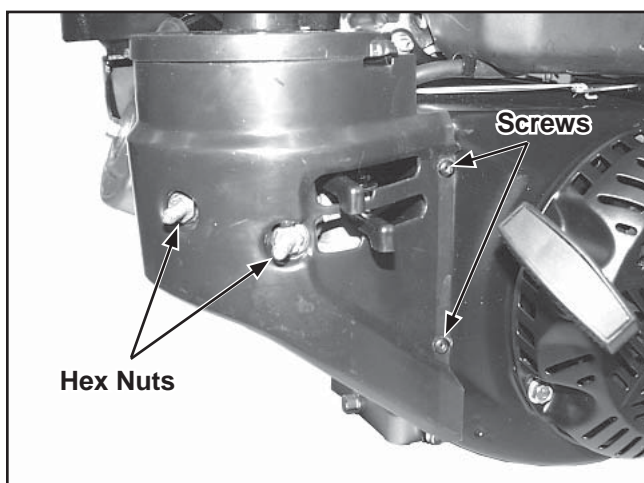

Figure 11-85. Installing Carburetor Cover.
1. Install the outer air cleaner cover onto the studs, over the carburetor. Secure with two hex nuts and two screws. Torque the nuts to 4 N·m (35 in. lb.) and the screws to 1.3 N·m (12 in. lb.) See Figure 11-85.